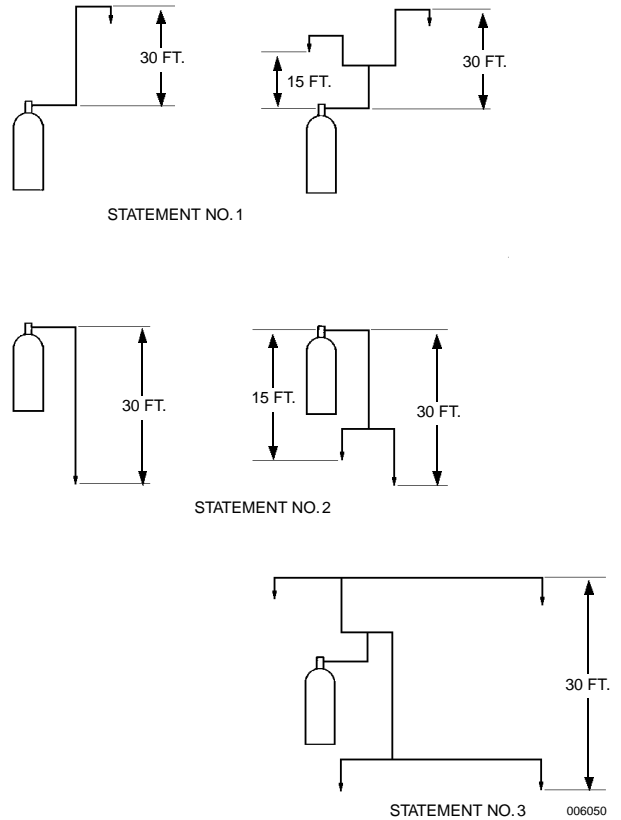

Figure 26a
- Statement No. 1. If nozzles are only located **above** the tank outlet, then the maximum elevation difference between the tank outlet and the furthest horizontal pipe run or discharge nozzle (whichever is furthest) shall not exceed 30 ft. See Figure 26a.
- Statement No. 2. If nozzles are only located **below** the container outlet, then the maximum elevation difference between the tank outlet and the furthest horizontal pipe run or discharge nozzle (whichever is furthest) shall not exceed 30 ft. See Figure 26a.
- Statement No. 3. If nozzles are located both **above and below** the tank outlet, then the maximum elevation difference between the furthest horizontal pipe runs or discharge nozzles (whichever is furthest) shall not exceed 30 ft. See Figure 26a.